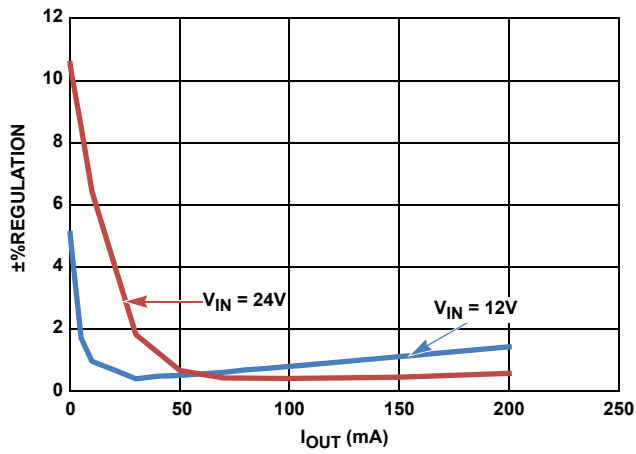
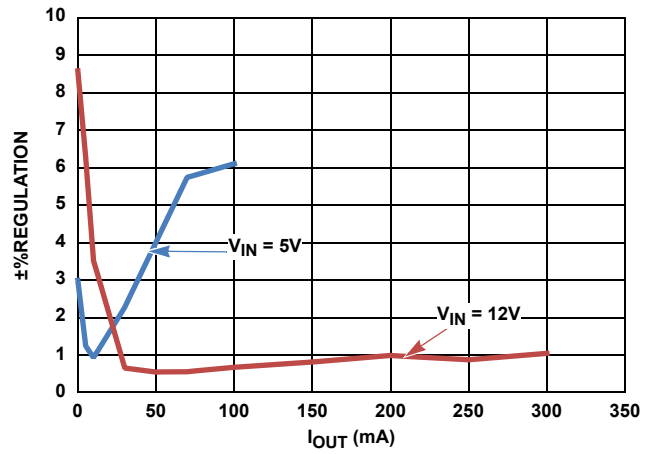

FIGURE 10. $V_{OUT} = 5V, \%REGULATION$ vs I_{OUT}
FIGURE 11. $V_{OUT} = 3.3V, \%REGULATION$ vs I_{OUT}
- Continuous output current up to 300mA (refer to Figures 10 and 11)
The curves in Figure 10 indicate the secondary output voltage regulation versus the load applied in the secondary output, without any load on the primary output for $V_{OUT} = 5\text{V}$, at different input voltages. The curves in Figure 11 indicate the secondary output voltage regulation versus the load applied in the secondary output, without any load on the primary output for $V_{OUT} = 3.3\text{V}$, at different input voltages.